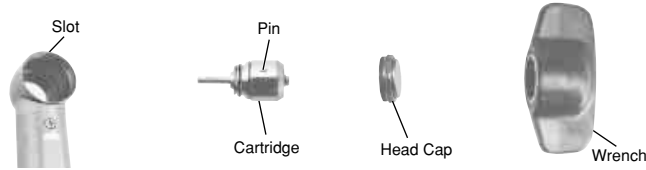

Fig.12
- (2) Inserting the new cartridge
- ① Insert the new cartridge, with its pin aligned in the slot of the handpiece head, straight into the handpiece.
- ② Hand tighten the cap until finger tight and secure with wrench until the cap sets in place. (Fig.12)